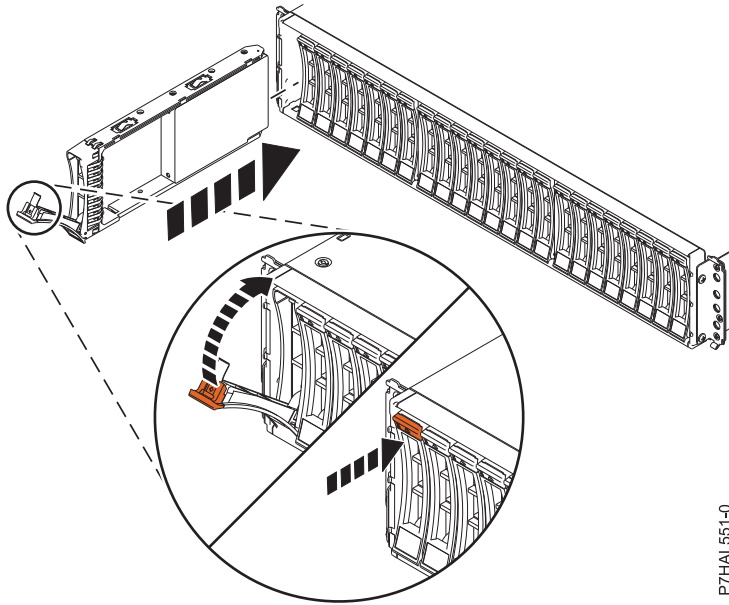

Figure 26. Installing the disk drive in the 5887
1. With the handle in the unlocked position, see Figure 26 on page 39, support the bottom of the disk unit as you align it with the guide rails in the expansion unit. Do not hold the disk unit solely by the handle.